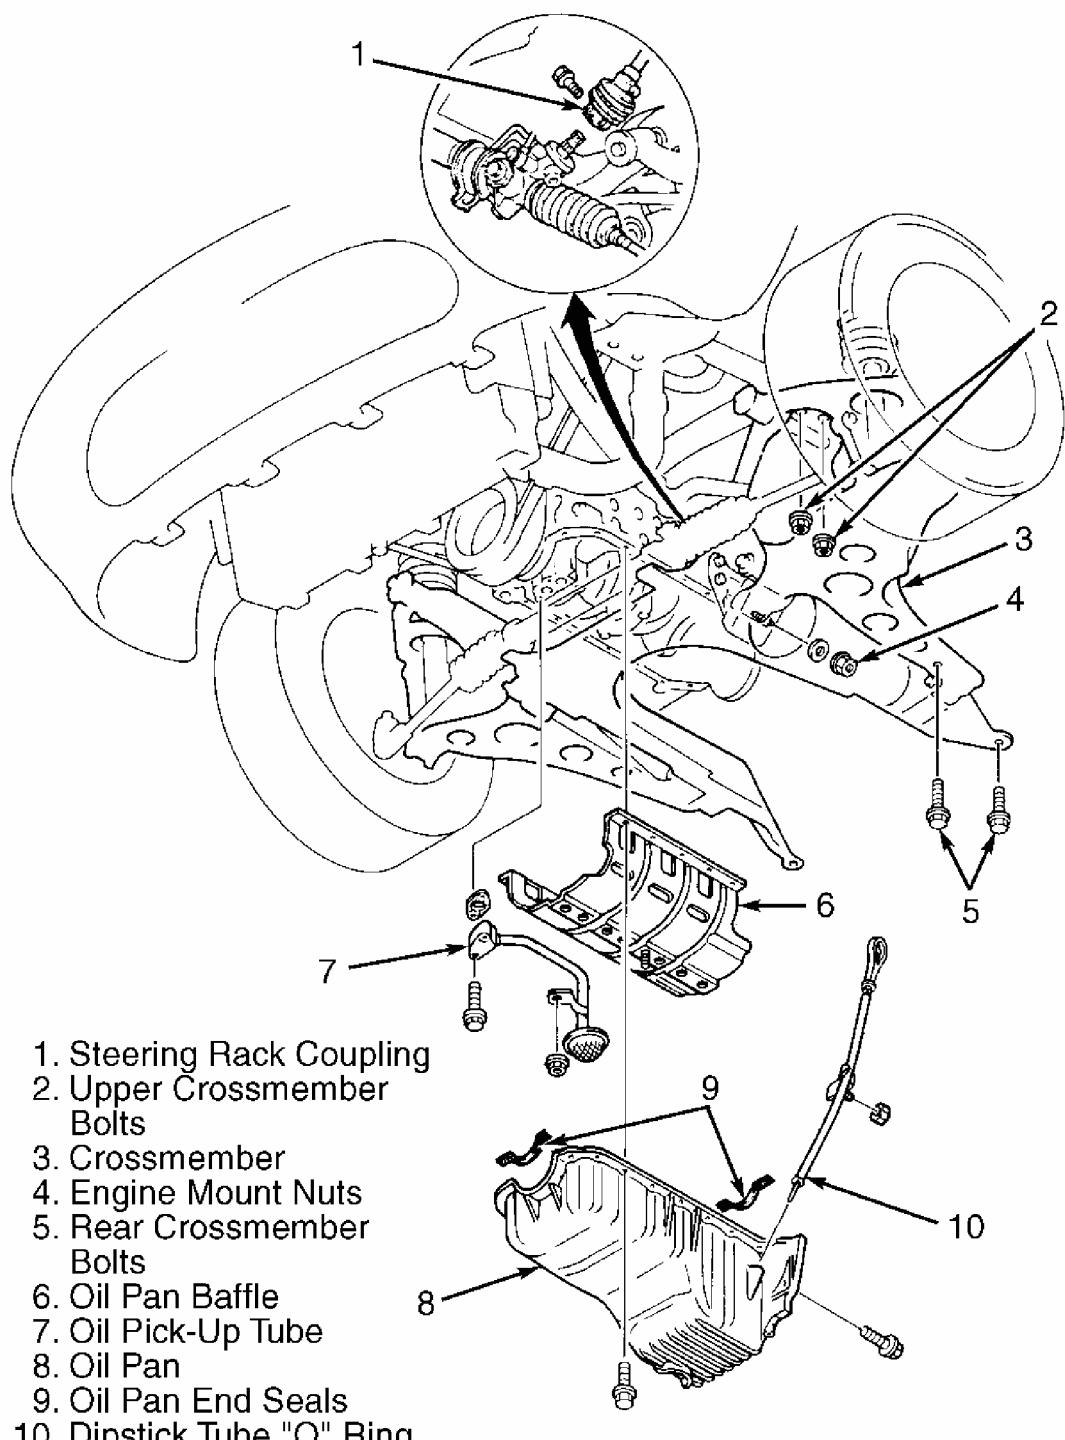

Fig. 9: Removing Crossmember & Oil Pan
1. Disconnect negative battery cable. Remove dipstick, tube and "O" ring. Raise vehicle on hoist. Remove engine undercover. Drain engine oil. Disconnect steering column shaft at steering rack coupling. Remove engine mount nuts. See **Fig. 9**. Lift and support engine using jack.
3. DO NOT damage sealant contact surfaces. Remove oil pan by prying between oil pan and transmission support. Remove oil pan baffle by prying it from engine. See **Fig. 9**. DO NOT deform oil pan baffle. Replace oil pan baffle if deformed. Clean sealant from oil pan, bolts, engine block and both sides of oil pan baffle.